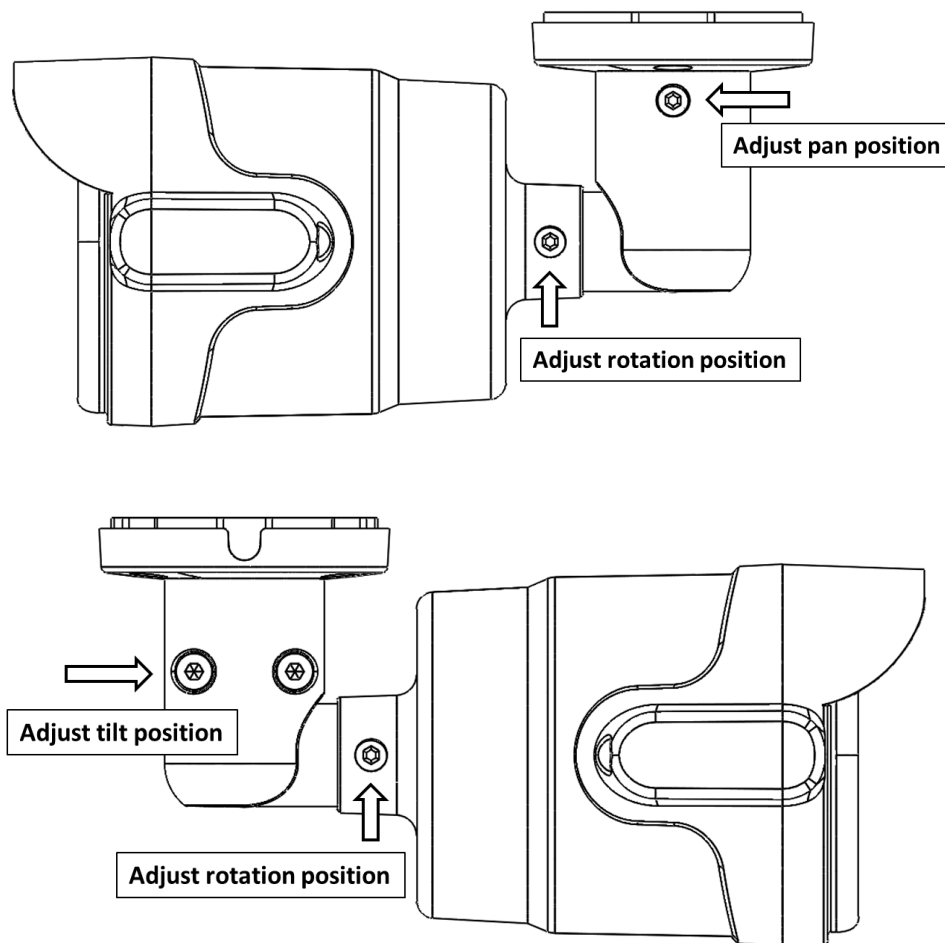

Figure 3: Loose Hex screws on the camera bracket to adjust the field of view
1. Loose Hex screws on the camera bracket with the supplied Hex screw L-key, and then adjust the pan, tilt, and rotation position to obtain the desired field of view as shown in Figure 3.